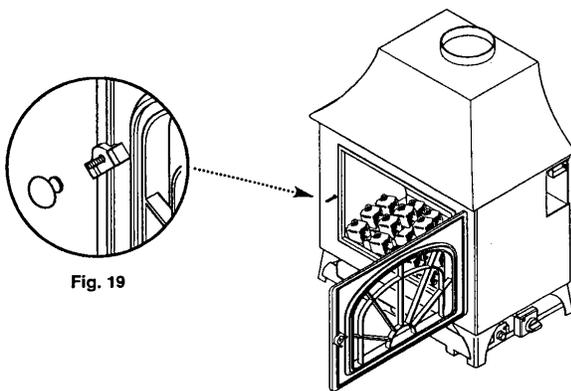

Fig. 19
6. Close the appliance door and secure it with the brass knob (Fig. 19).